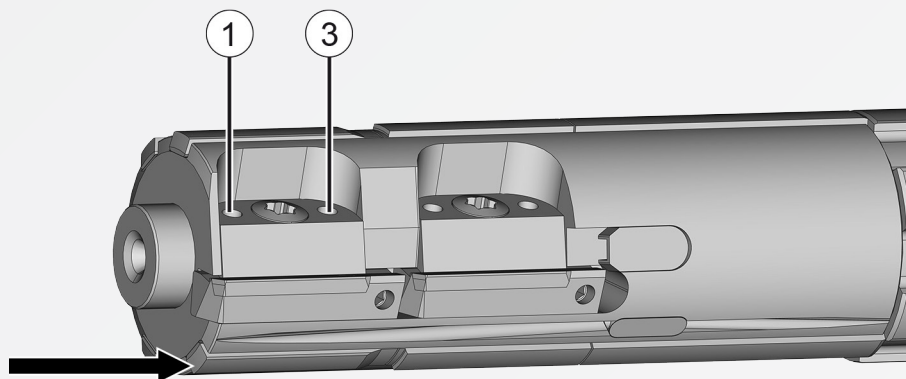

Fig. 8: Side view Reference line
3. Move both measuring probes towards the reference line. The reference line is the first guiding rail behind the cutting edge in rotational direction (see arrowhead figure 8). Apply the measuring probespecific pre-stressing to the reference line and then zeroset both probes.